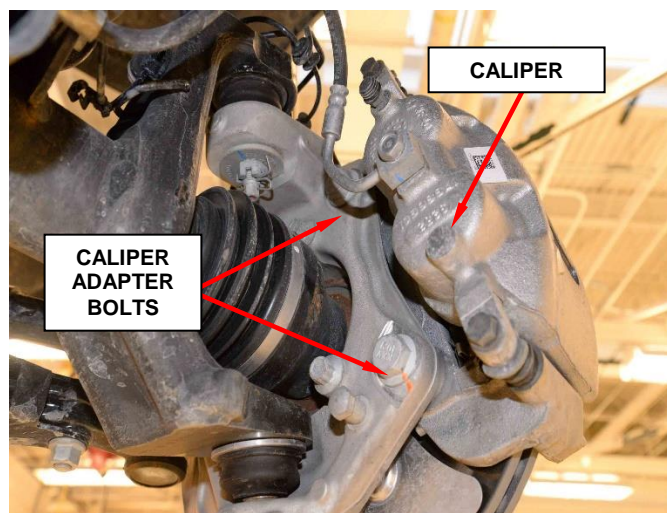

Figure 6 – Caliper Adapter
9. Remove the front caliper adapter bolts and front calipers as an assembly (Figure 6).
32. Install the front caliper adapter and front caliper assemblies (Figure 6).